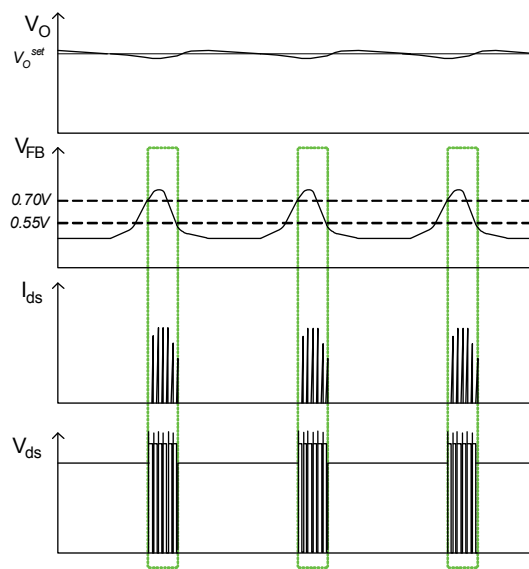

### Figure 19. Internal Soft-Start
**5. Soft-Start:** The FPS has an internal soft-start circuit that slowly increases the feedback voltage, together with the SenseFET current, right after it starts. The typical soft-start time is 15ms, as shown in Figure 19, where progressive increment of the SenseFET current is allowed during the startup phase. Soft-start circuit progressively increases current limits to establish proper working conditions for transformers, inductors, capacitors, and switching devices. It also helps to prevent transformer saturation and reduces the stress on the secondary diode.